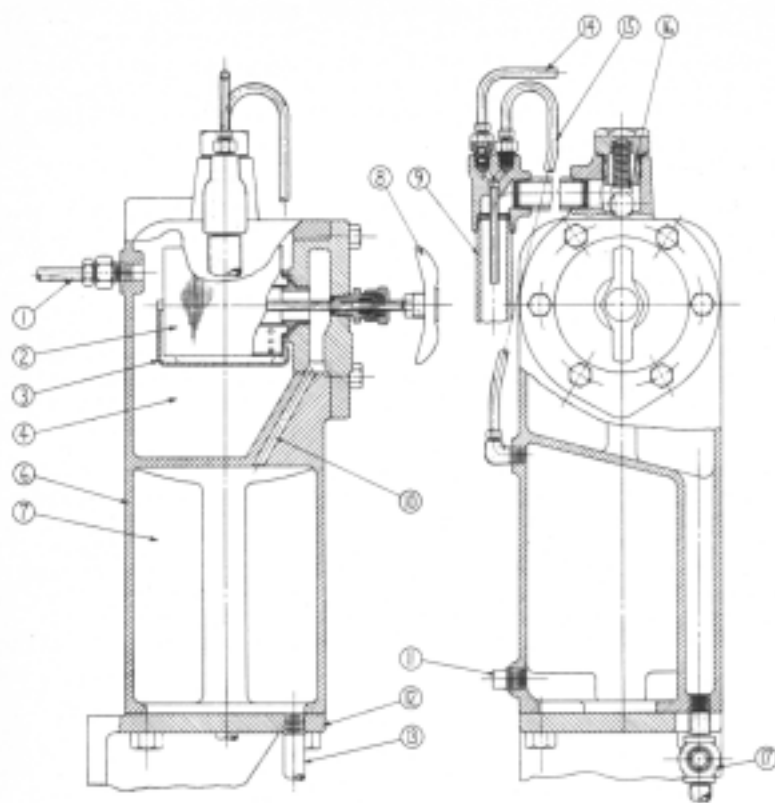

FIG. N-2
The fuel oil day tank and filter are shown in Fig. N-2. A continuous flow of fuel oil from the fuel transfer pump enters the unfiltered fuel compartment (4) through tube (1). The metal edge type fuel filter (2) is mounted in the side of tank (6). It has .003" spacing and is provided with a cleaning knife (3), operated by handle (8), which scrapes the dirt and muck off the outside of the cleaning spool. The handle should be turned every four or five hours, and should always be turned immediately after stopping the engine, as the dirt can then settle freely through the